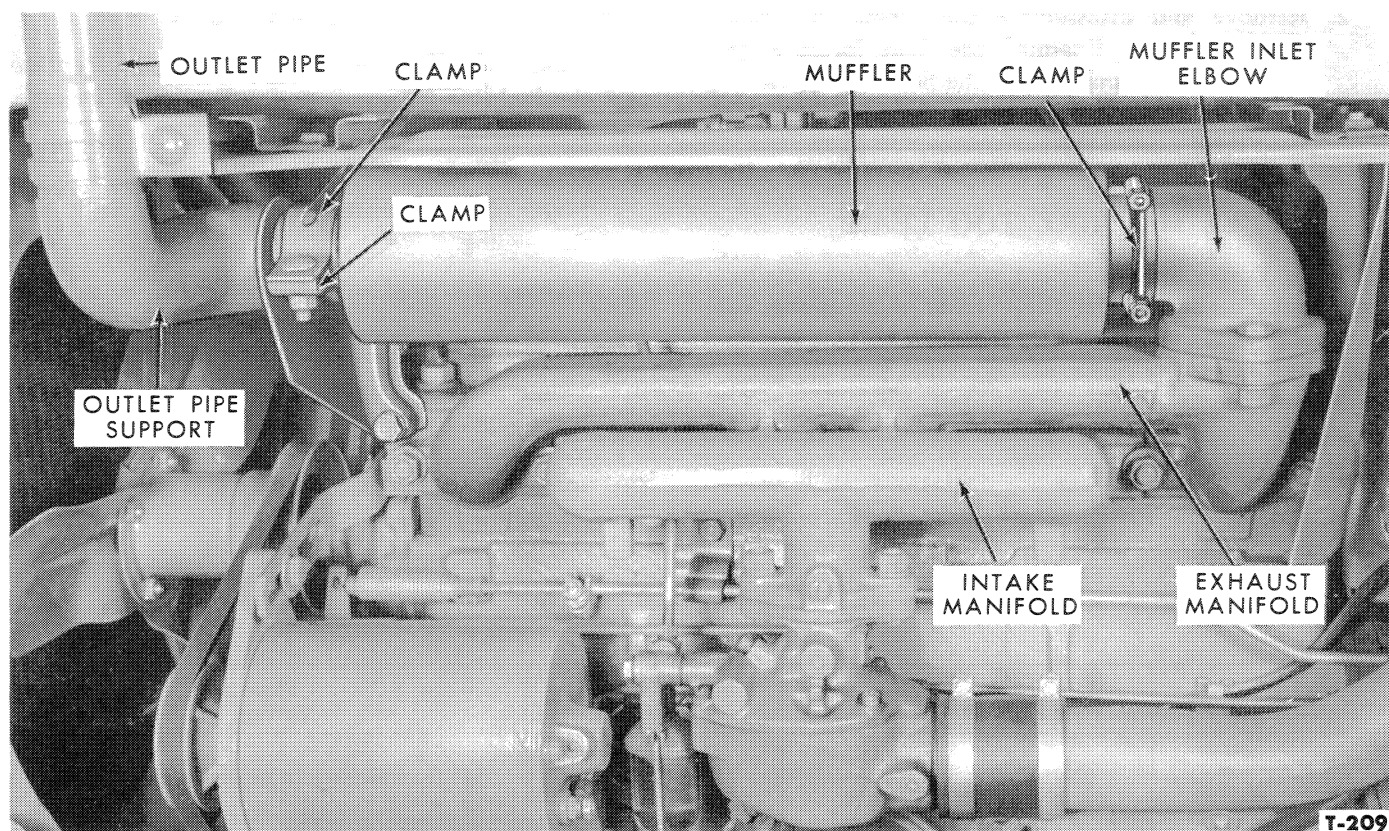

Figure 10—Vertical Exhaust System
1. Loosen the clamp bolt that secures the outlet pipe to the muffler outlet pipe support bracket, Figure 10. Remove the outlet pipe.
6. Position the muffler rear clamp on the rear of the muffler, Figure 10. Slide the muffler onto the inlet elbow as far as possible. Install and tighten the muffler rear clamp bolt.